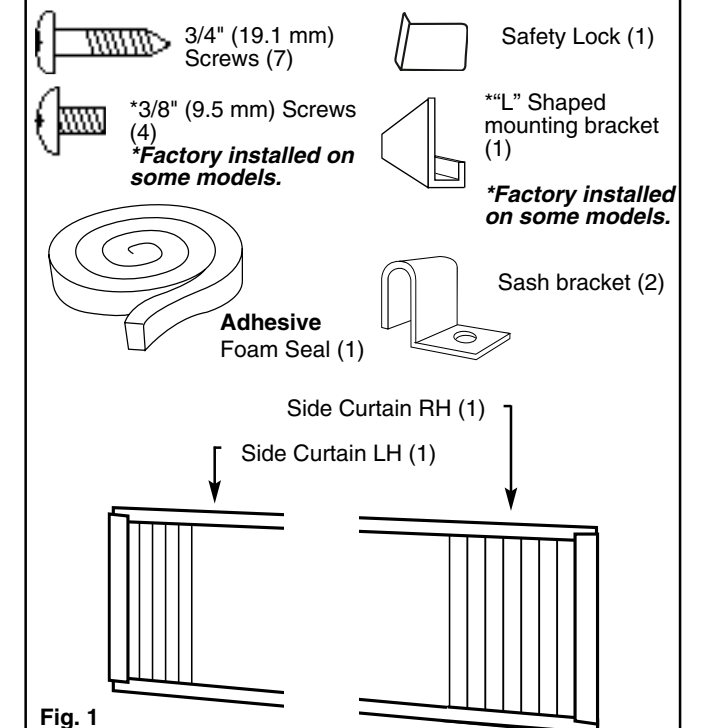

Fig. 1
**NOTE:** Save the shipping carton and packing materials for future storage or transport of the unit. Remove from carton, the plastic bag containing the installation hardware kit necessary for the installation of your air conditioner. Please check the contents of hardware kit against the corresponding model check list, prior to installation of the unit. See Fig. 1